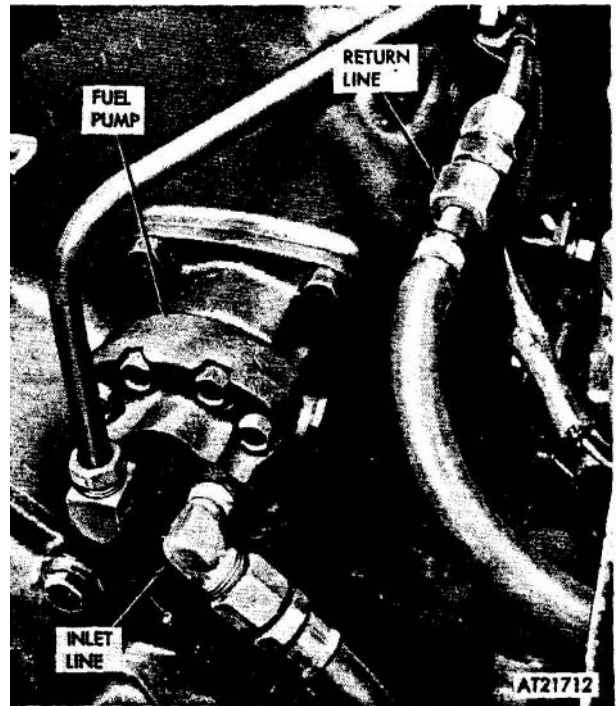

Figure 2-57. Fuel lines.
(18) Remove pads from transmission steady rest and from channel of support. Clean rest and support of grease and dirt.
(19) Remove two screws, washers, and nuts securing angle to support assembly. Remove angle.
(20) Disconnect fuel inlet line from fuel pump. Cap, using suitable sized plastic protective caps, the fuel inlet line and fuel pump inlet openings (fig 2-57).
(8) Remove caps from fuel return line and fitting on power plant. Connect fuel return line (fig 2-57).